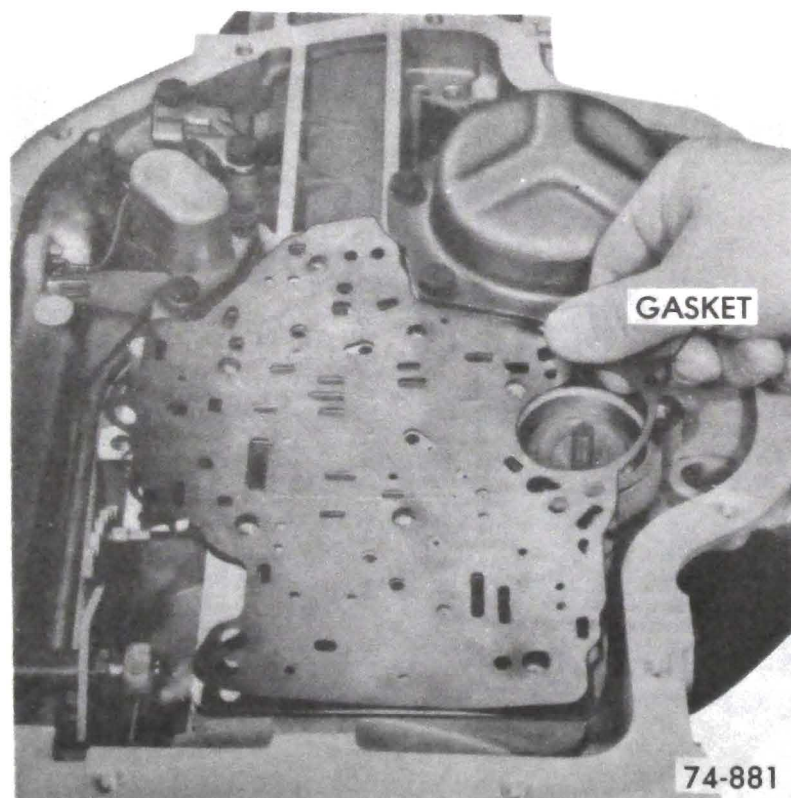

Figure 76-273A
1. Install valve body to spacer plate gasket. See Figure 76-273A.